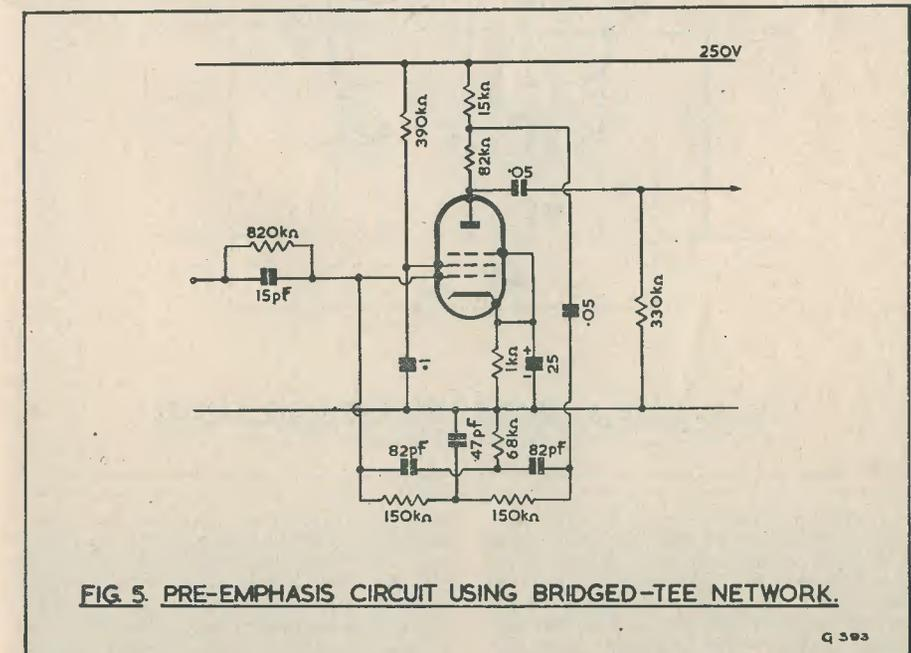

FIG. 5. PRE-EMPHASIS CIRCUIT USING BRIDGED-TEE NETWORK.
R.M.A. code for Tubular Ceramics. The markings on tubular ceramics consist of three broad bands and three narrow bands. They do not follow the normal sequence, in that the first broad band indicates the third significant figure followed by the second and first, multiplier, tolerance and temperature coefficient. All these capacitors are 500 volt working. See Fig. 5.
will show, a conventional "treble lift" circuit will not completely fill the bill; if arranged to give the desired 19 db pre-emphasis at 12 kc/s, there will be rather too much around 7-8 kc/s, with a consequent "hump" at this point on playback. We must also bear in mind the desirability of being in a position, later, to increase the lift at 10-12 kc/s in order to compensate for head wear. What, then, is the answer? There are those who prefer the Bridged-Tee network, applied as a negative feedback chain about a single valve. A suitable circuit employing such an arrangement is shown in Fig. 5. Let us have a look at its performance and see whether it will, in fact, enable us to fulfil our specification. The valve used would be an EF86, Z729, or similar type, and would have a basic gain of 40-45 db. The gain at the point of resonance, in this instance 12.9 kc/s, would be about 26 db. With a gain at the limits well away from resonance of some 8 db we have a total lift of about 18 db, and the point at which we have 3 db of lift works out at about 5.7 kc/s,